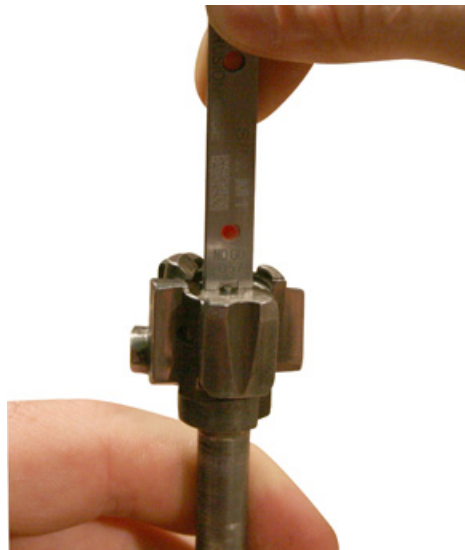

Figure 6. Using the “No-Go” Side of the Firing Pin Protrusion Gage.
2. With the rear of the bolt on a flat surface, sweep the “no-go” side of the gage across the firing pin. The gage should catch and not move freely over the pin. If the gage does not catch on the bolt or firing pin, regage with a different firing pin. If the bolt fails gaging again, replace the bolt. Refer to Figure 6.